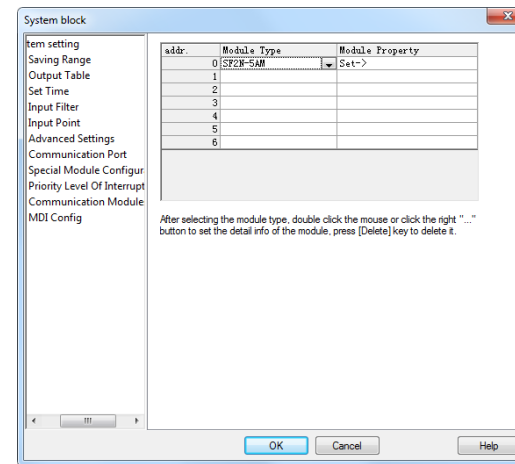
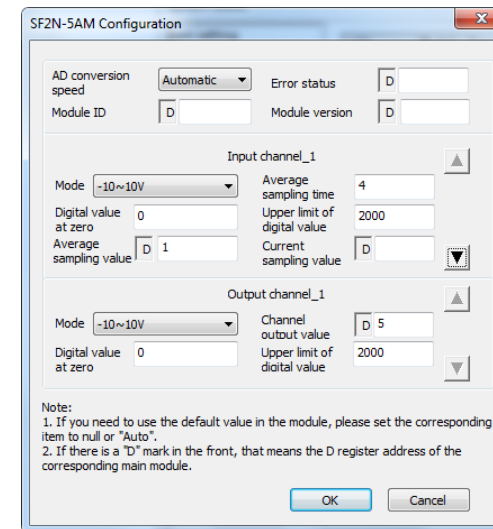

Figure 4-1 Setting special module type
Figure 4-2 Setting special module parameters
9. BFM#4094: module software version, displayed automatically as **Module Version** in **SF2N-5AM Configuration** dialogue box of the host software, as shown in Figure 4-2.
Example: The SF2N-5AM module address is 1 (for the addressing of extension modules, see *SF2N Series PLC User Manual*). Use its channels 1, 2, 3 and 4 for voltage signal input (-10V~10V), set the average sampling times to 4, and use data registers D1, D2, D3 and D4 to receive the average value; set output channel to mode 0 to output 10V voltage signal, and use D5 element. Set extension module type as shown in Figure 4-1, and set actual parameters of extension module. Figure 4-2 shows the setting of input channel 1 and output channel 1. Set the other three input channels